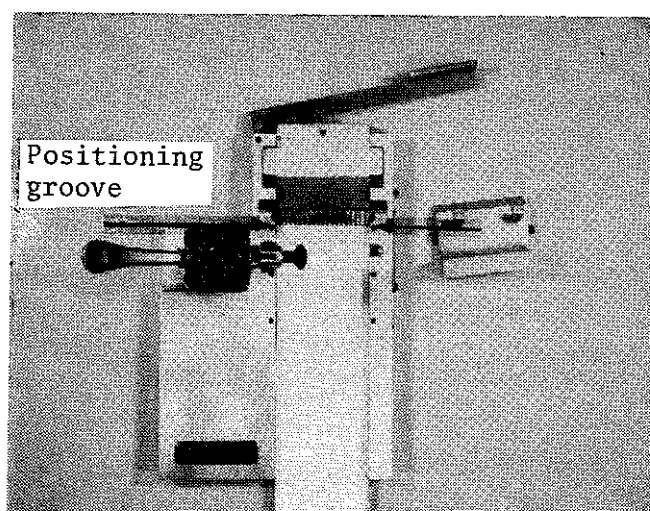

Figure 5-2. FCC Inserted into Folding Tool
2. Insert stripped and tinned FCC into the tool and align the insulation end with the positioning groove (scribed line) (Figure 5-2).